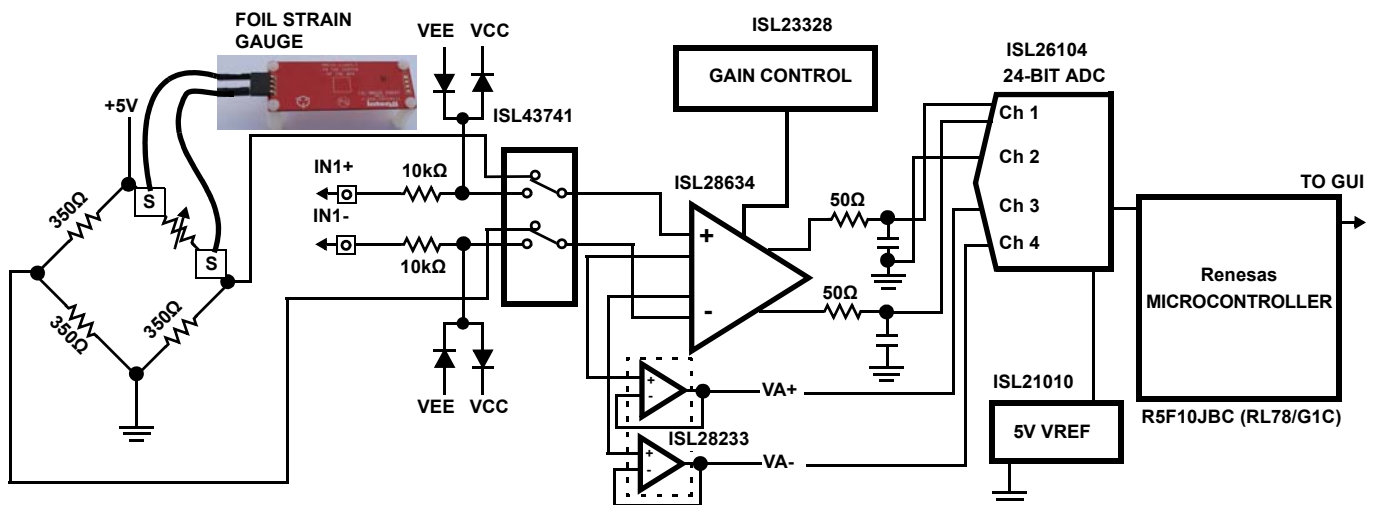
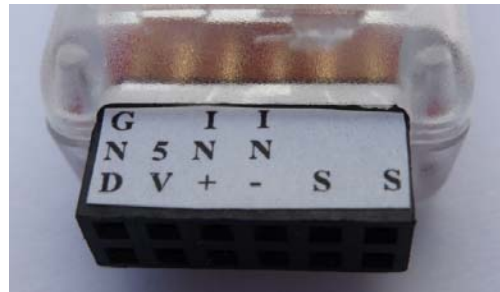
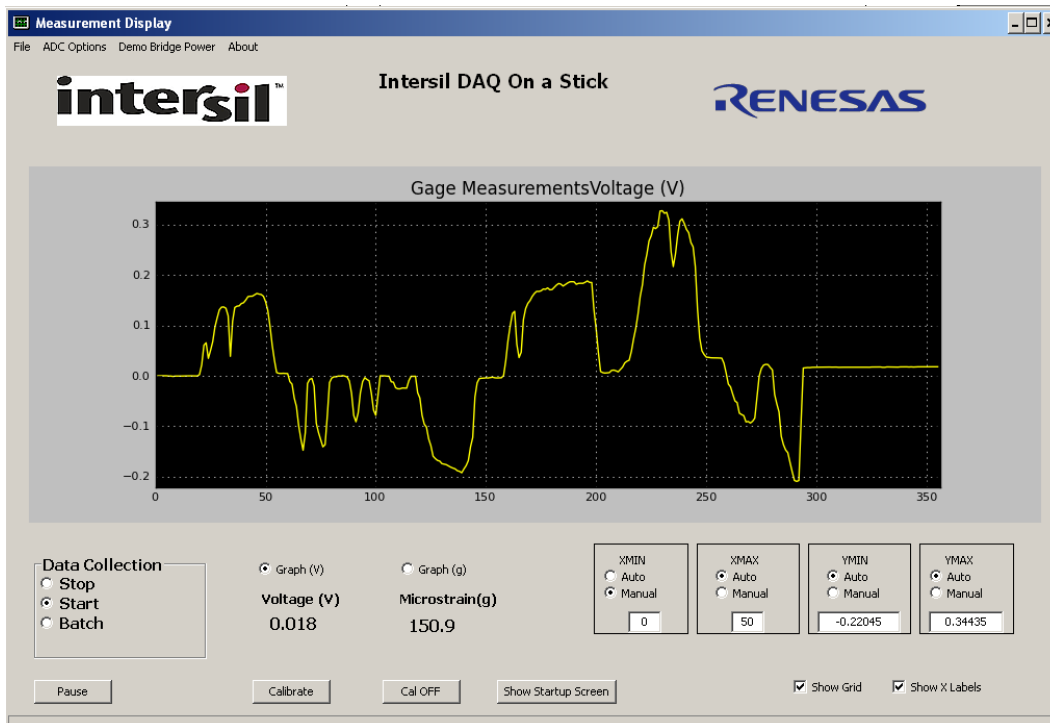

FIGURE 2. SIMPLIFIED STRAIN GAUGE SCHEMATIC
FIGURE 5. SENSOR CONNECTOR
FIGURE 6. GUI MEASUREMENT SCREEN
Figure 2 shows a simplified schematic of the Strain Gauge design. The design uses Intersil’s ISL28634 Programmable Instrumentation Amplifier (INAMP), ISL23328 Digital Potentiometer, ISL28233 Operational Amplifiers, ISL43741 Differential Mux, ISL21010 4.096 Voltage Reference, the ISL26104 24-bit Delta Sigma Converter and Renesas R5F10JBC (RL78/G1C) Microcontroller.
After software has been installed, and the setup screen in Figure 5 appears, plug the ISLRE-BDGSTKEV1Z board into a USB port on the computer.
The green LED on the DAQ on a Stick board should be on at this time. When the software starts, the Startup Screen shown in Figure 5 will appear. With the DAQ on a Stick connected, the USB Status indicator will display “Connected 0x2033”. The assigned HID PID code for this application is 0x2033. This is verification the software is communicating with the board.
From the Startup Screen (Figure 5), the user can click on the Instantaneous Voltage button to get a single voltage reading, select the sensor input they want to measure and adjust the gain of the amplifier, or click the Start button to go to the Measurement Display screen, as shown in Figure 6, “GUI MEASUREMENT SCREEN,” on page 4. At this point the green LED on the board will go off.
The ISLRE-BDGSTKEV1Z reference design gives the user the option to measure the strain on an internal Bridge with a foil gauge (supplied with the evaluation board) or connect an external sensor and monitor the voltage reading on the GUI screen. The user will select the “Supplied with the Demo” sensor or “Customer Supplied” sensor by clicking the appropriate radial button at the top of Figure 5. The “Supplied with the Demo” sensor (foil gauge) is the default value in the GUI with a gain of 100V/V. Figure 5 shows the external connector inputs, which are used to connect the sensor to the circuit shown in Figure 2 on page 1.
2. Connect the opposite end of the wires to the far edges of the foil gauge board (See Figure 5).
1. To connect a user supplied sensor, plug the wires into the IN+ and IN- ports as shown in Figure 5, then select the “Customer Supplied” option. This will cause the ISL43741 differential mux to switch the inputs. Once the Customer Supplied option is selected, the user will have the option of changing the amplifiers’ gain for the best measurement.
The following is an overview of the demonstration software. The primary goal of the software is to provide a real-time graphical display of data collection. To do this, two GUI screens are used. The Startup Screen (Figure 5) is used for the following: verify software is communicating with the board, select the sensor to be measured, select gain of the system (if the “Customer Supplied” sensor is selected) and select the input to the ADC. Once these items are selected, the User can click on the “Start” button to proceed to the Measurement screen (Figure 6).
The "Start" button at the bottom left of the Startup Screen loads the "Measurement Display" screen shown in Figure 6.
Once the “Start” button is clicked on the Startup Screen, the Measurement Display Screen will appear (Figure 6). From this screen the user can do the following: start/stop data collection, select the scaling of the Y axis [Voltage (V) or Microstrain (g)], adjust the scaling of the X and Y axes [“Automatic” or “Manual”], and remove any offsets with the “Calibrate” button.